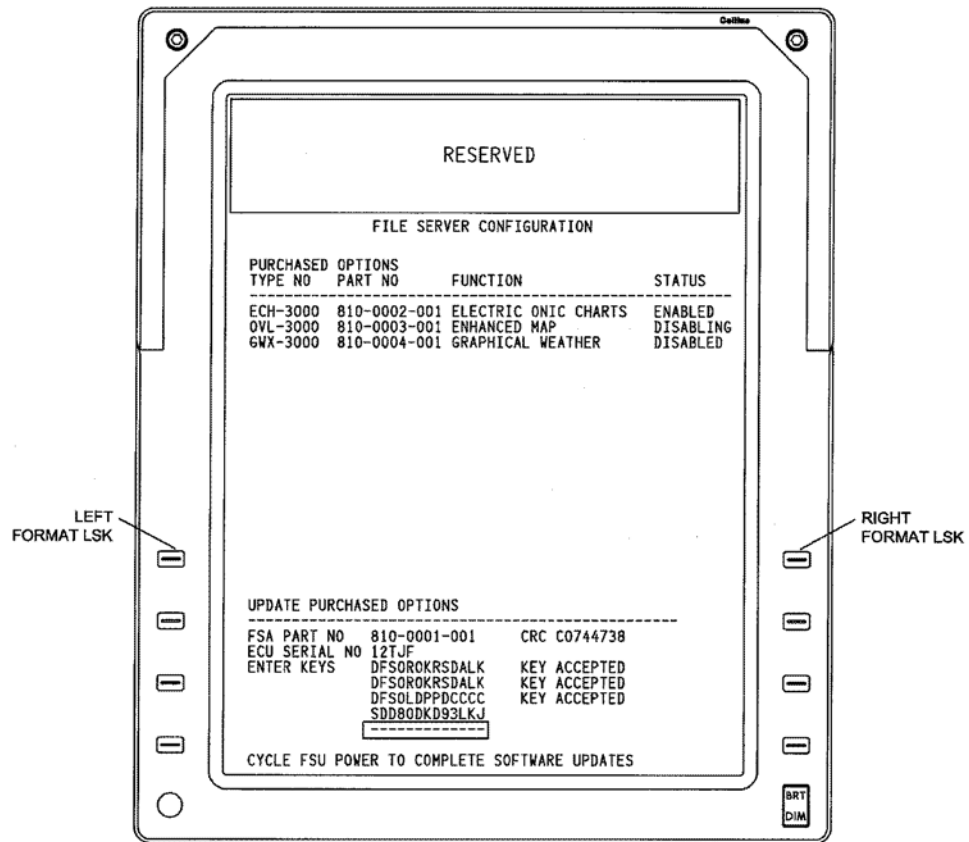

Fig. 211 - File Server Configuration Page
- (1) Make sure the a/c is in On-Ground configuration.
- (2) Push the STAT button and then the MENU button, on the Cursor Control Panel (CCP), to show the STATUS MENU on the MFD.
- (3) Turn the MENU ADV knob, on the CCP, to position the focus indicator around the FILE SERVER CONFIGURATION line.
- (4) Push the PUSH SELECT button to show the FILE SERVER CONFIGURATION page on the MFD.
- (5) Make sure the data on the FILE SERVER CONFIGURATION page is correct (Ref. Fig. 211) and the FSA PART NO (File Server Application software), Cyclic Redundancy Code (CRC) and ECU Serial Number are shown on the MFD.
- (6) Turn the MENU ADV knob, on the CCP, to position the focus indicator around the first ENTER KEYS line.
- (7) Push the PUSH SELECT button to select the first digit of the first key line.
- (8) Use MENU ADV knob, on the CCP, to select character of the first digit.
- (9) Use DATA knob, on the CCP, to pass to the following digit.
- (10) Complete the string of the first EAK.
- (11) Push the PUSH SELECT button to enter the entire string.
- (12) Make sure KEY ACCEPTED message is displayed, and the selected database status becomes ENABLED.
- (13) Continue to insert all the EAKs for the databases to be uploaded executing steps 6 to 12.
- (14) Make sure the appropriate functions show in green and the STATUS column indicates ENABLED.